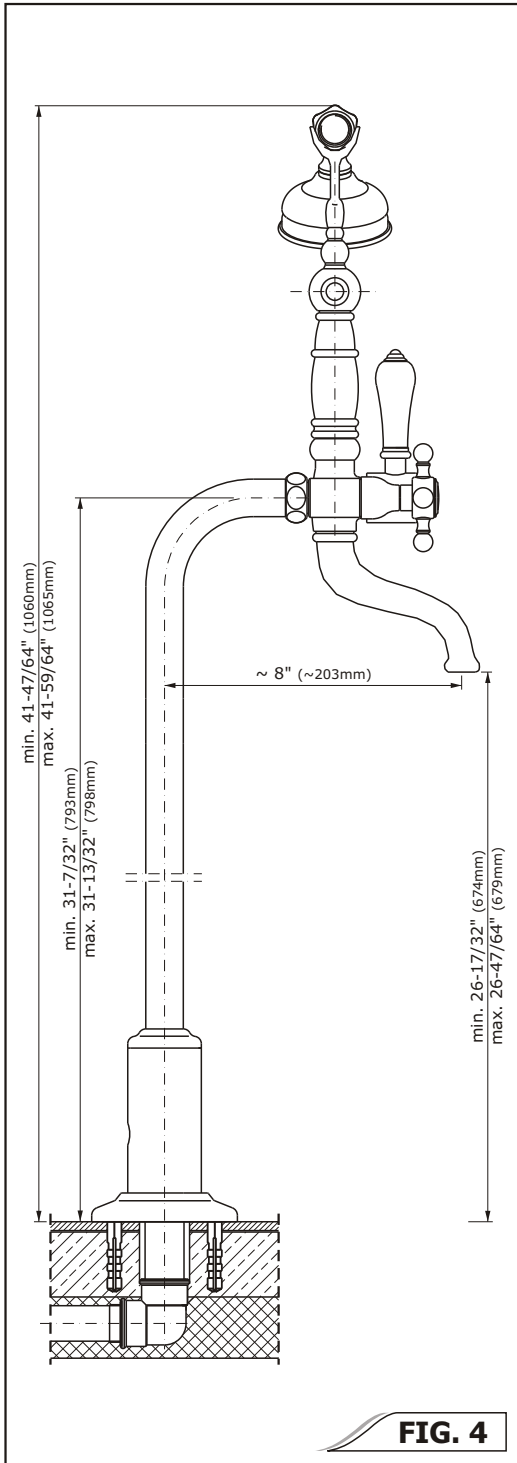

FIG. 4
11. Make sure that the flat seals are positioned correctly in the nuts in the back of the filler. Secure the filler by tightening the nuts to the floor legs (fig. 4).
13. Put on the handles (2) onto the stem of hot and cold valves. Secure the handles using the hex key for screw (3) - see p. 2.